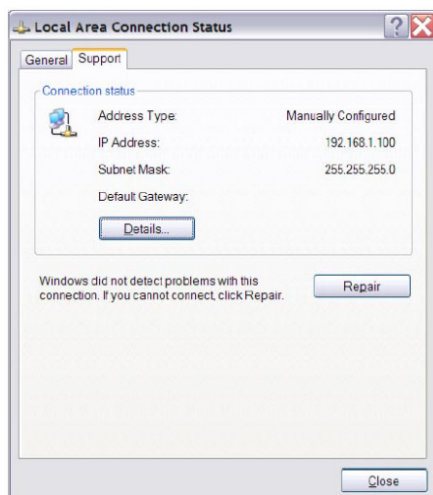

Figure 4
5. Click on **OK** to set the address. You can verify that your settings are correct by double-clicking on "**Local Area Connection**" and selecting the **Support** tab (Fig 4).